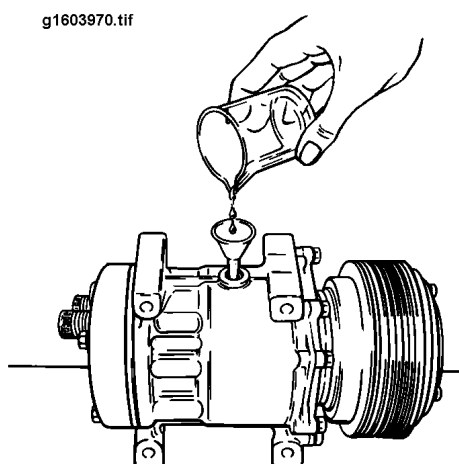

Figure 70 Add New Oil to Compressor
9. If the oil is not contaminated, add the correct amount of new oil to the compressor as determined by the OIL FILL GUIDELINES (See OIL FILL GUIDELINES, page 158). Refer to Figure 70.